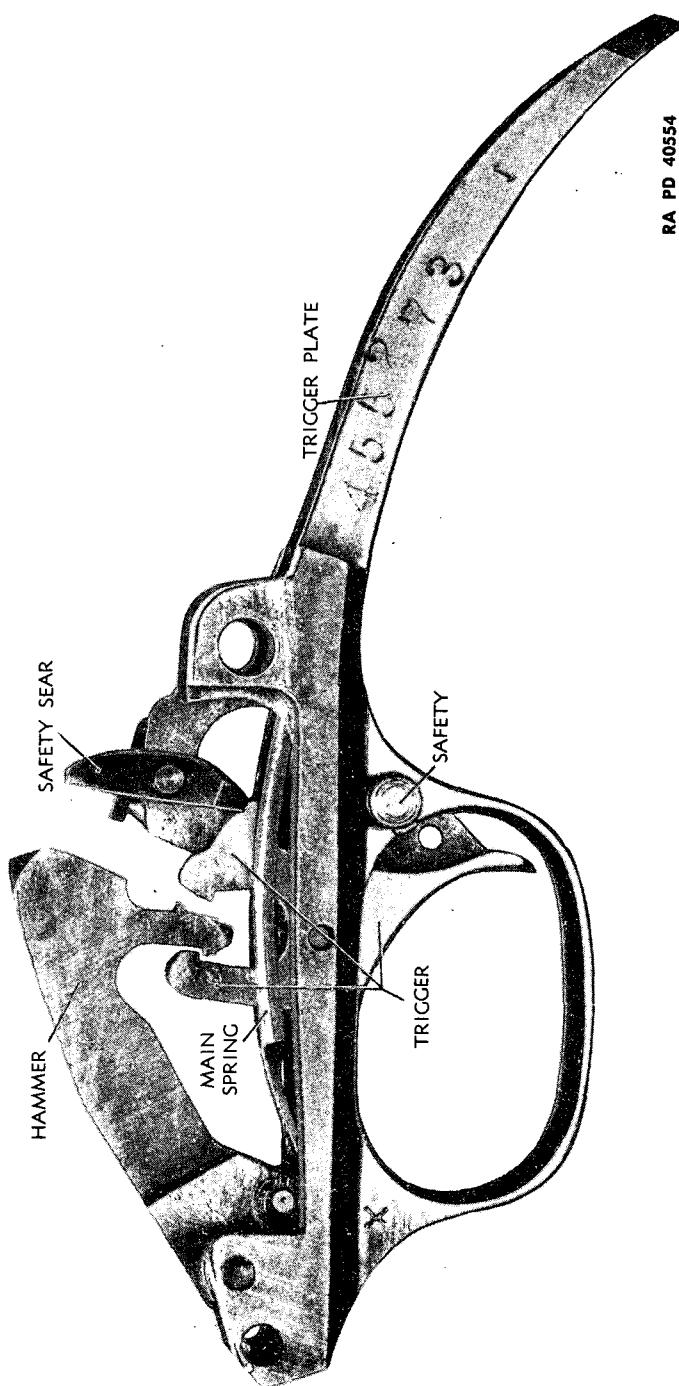

Figure 103—Trigger Plate Group—Left Side View—Remington Shotgun M11—Sportsman
(10) The trigger plate group (fig. 103) is composed of the hammer, trigger, safety sear, mainspring, and trigger safety together with their components. The hammer is pivoted in the forward end of the trigger plate and is functioned by the mainspring screwed to the tang of the trigger plate, and bearing on a roller in the lower end of the hammer. The mainspring is of the leaf type and is slotted to allow the upper end of the trigger, which acts as the sear, to protrude through it to engage the hammer. A lug extends from the upper rear face of the hammer in which there are two notches, one facing forward and the other to the rear. The trigger is pivoted in the rear end of the trigger plate; the lower end extending downward into the guard bow. The upper end of the trigger is U-shaped; the upper ends of the U, forming hooks facing towards each other. When in the cocked position, the notched hammer lug lies between these hooks and is held by one or the other as explained hereafter. This feature prevents the gun from firing automatically as the trigger must be released and again pulled before the gun will fire. The safety sear is pivoted on a lug on the trigger plate directly over the trigger and acts as a block to the trigger during the functioning of the operating mechanism. The safety sear is spring-
h. The hammer is cocked by the link, which straddles it, on the rearward movement of the bolt. The sear hooks on the trigger (fig. 103) engage with notches in the hammer to hold it in the cocked position, whether the trigger has been released between shots or not. The safety sear blocks the trigger preventing its being pulled until disengaged by the link as the bolt reaches the locked position. Detailed explanation of the functioning of the trigger is as follows:
(1) The upper part of the trigger is shaped like a U with two sear hooks facing each other. A lug projecting from the rear face of the hammer is notched on both sides to engage with the sear hooks on the trigger. The notched lug of the hammer rotates down between these hooks when cammed back by the link on the rearward movement of the bolt. If the trigger is in the forward (released) position, the forward hook engages with the forward notch in the hammer. If the trigger is in the rearward (pulled) position, the rear hook engages with the rear notch in the hammer. Thus the hammer is caught and held in the cocked position whether the trigger has been released or not. If the trigger has been held in the pulled position and the hammer caught by the rear hook, the trigger must be released and again pulled before the gun can be fired. Release